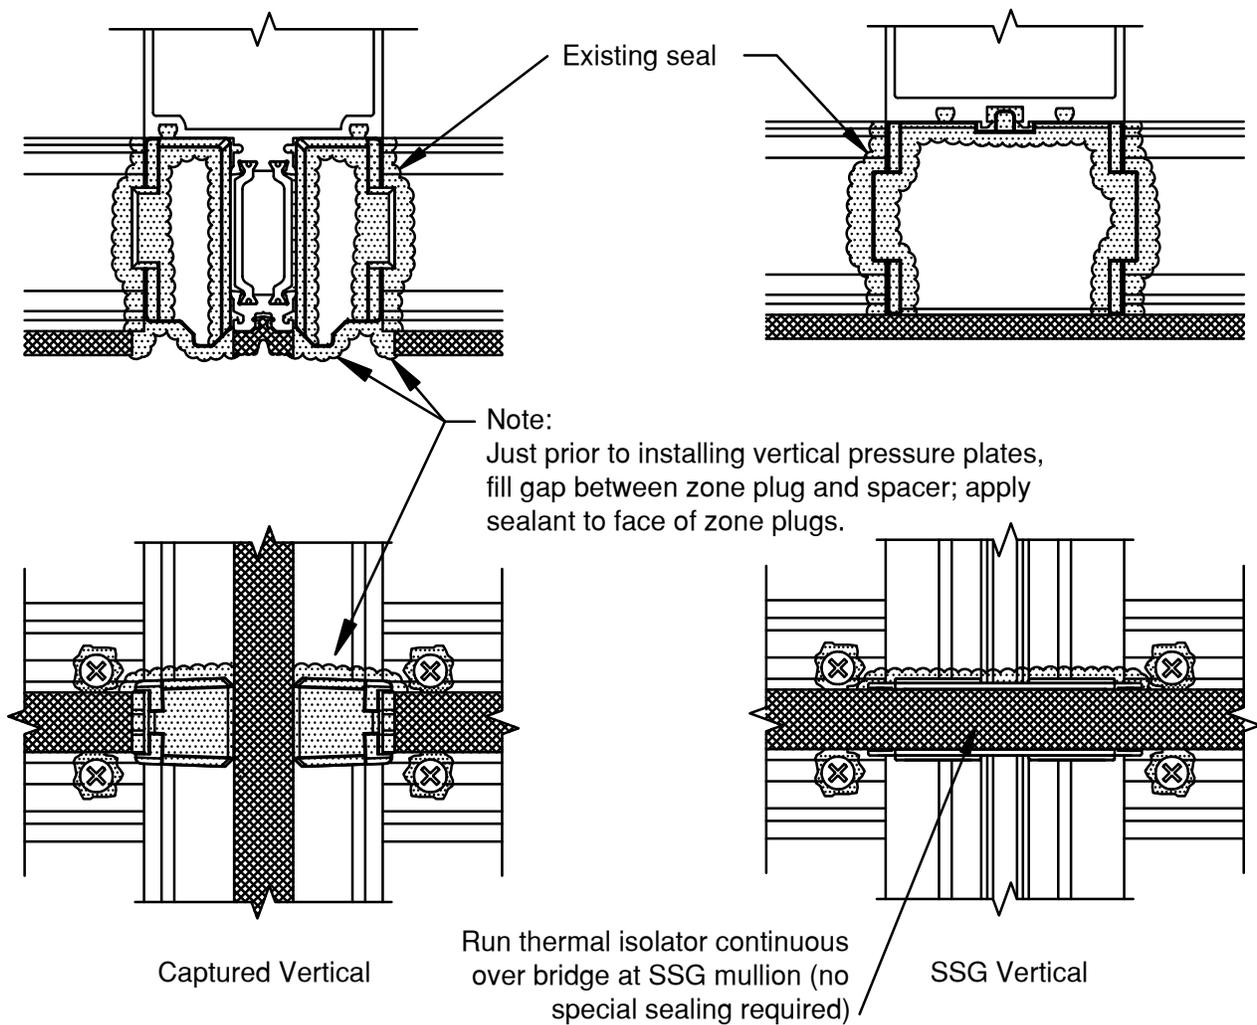

FIGURE 15
3.9 Prior to installing vertical pressure plates, apply sealant to the face of each horizontal zone plug. SEE FIGURE 15. Vertical pressure plates must be installed before the horizontal pressure plates are applied.